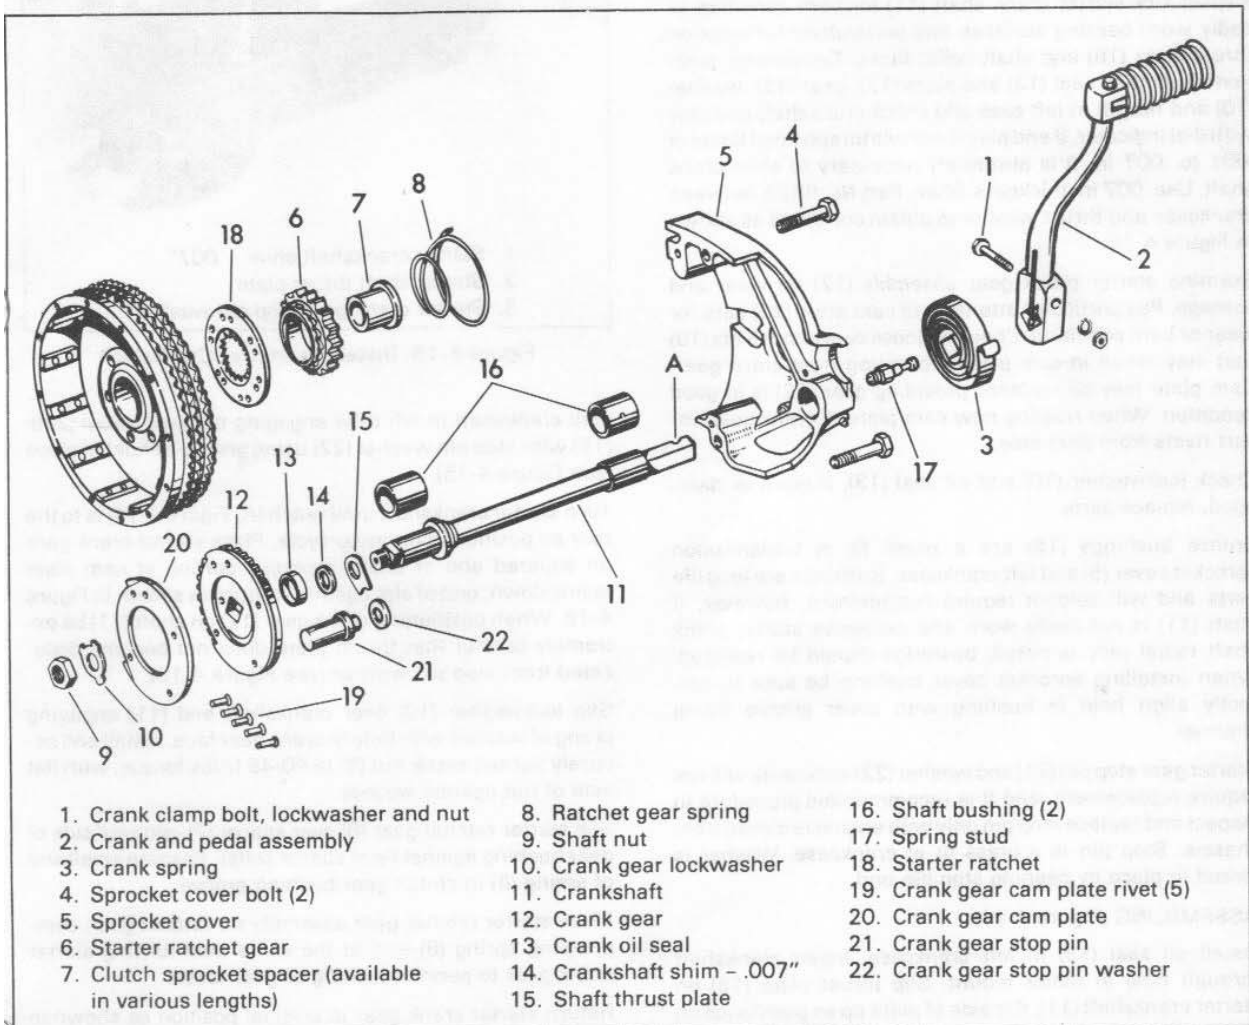
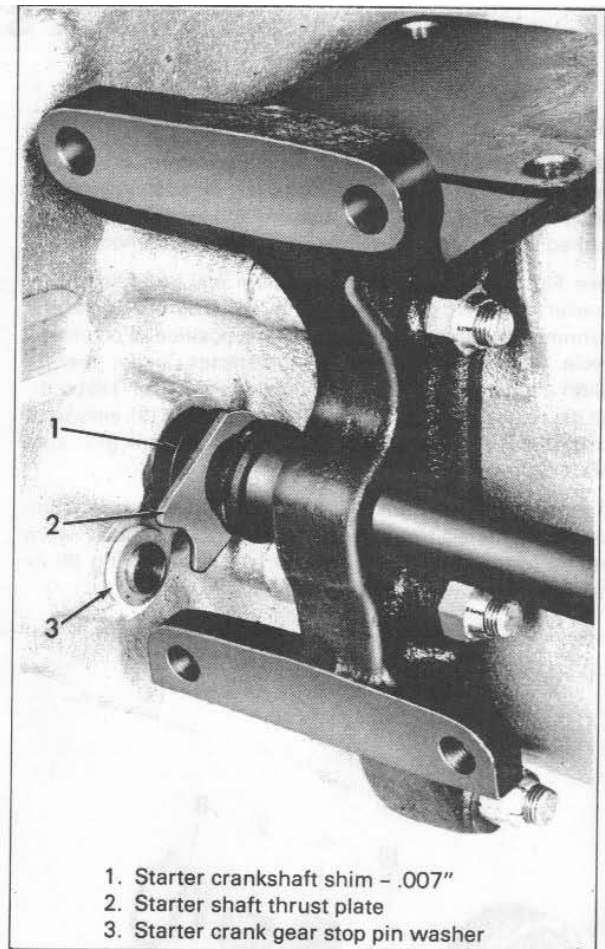
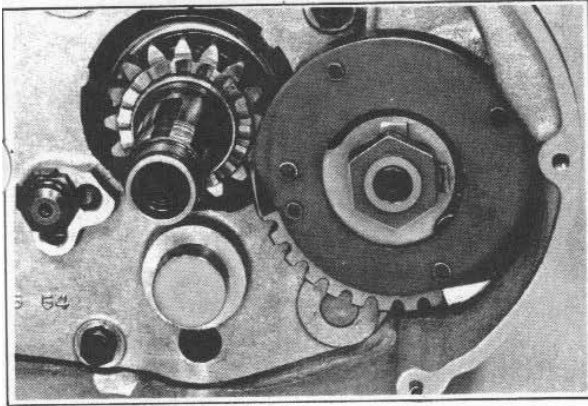

Figure 4-14. Kick Starter - Exploded View
Figure 4-15. Installing Starter Crankshaft
Figure 4-16. Positioning Starter Crank Gear on Starter Shaft
See Figure 4-14. A service problem will be indicated by starter ratchet gear ratcheting (clicking) with engine running, and starter crank upright as positioned on motorcycle. Ratcheting is caused by the starter ratchet gear (6) teeth making partial contact with starter ratchet (18) teeth, as the result of either a loose starter shaft nut (9), excessive crank shaft (11) end play or a loose starter crank gear cam plate (20).
## DISASSEMBLING (Figure 4-14)
### INSPECTING AND REPAIRING (Figure 4-14)
Inspect kick starter crank shaft (11) for bent condition or badly worn bearing surfaces and particularly for wear on thrust plate (15) and shaft collar faces. Temporarily position shaft (11), seal (13) and plate (15), gear (12), washer (10) and nut (9) in left case and check crankshaft end play with dial indicator. If end play is not within specified limits of .001 to .007 in. it is absolutely necessary to shim crankshaft. Use .007 in. thickness Shim, Part No. 6802, between crankcase and thrust washer to obtain correct fit as shown in Figure 4-15.
### ASSEMBLING (Figure 4-14)
stall crankshaft in left case engaging notched thrust plate (15) with stop pin washer (22) using grease to hold in place (see Figure 4-15).
Turn starter crankshaft until notch (A, Figure 4-14) is to the rear as positioned on motorcycle. Place starter crank gear on squared end of shaft, recessed portion of cam plate facing down, end of slot against stop pin as shown in Figure 4-16. When positioning crank gear (12) on shaft (11) be extremely careful that thrust plate does not become dislocated from stop pin washer (see Figure 4-15).
Return starter crank gear to original position as shown in Figure 4-16, with ratchet gear held against cam plate by spring tension.
Slip spring (3) over squared end of shaft (11), end of spring and notch (A, Figure 4-14) up as positioned on motorcycle. Using a screwdriver rotate spring clockwise and engage with stud (17). Install bolt, lockwasher and nut (1).